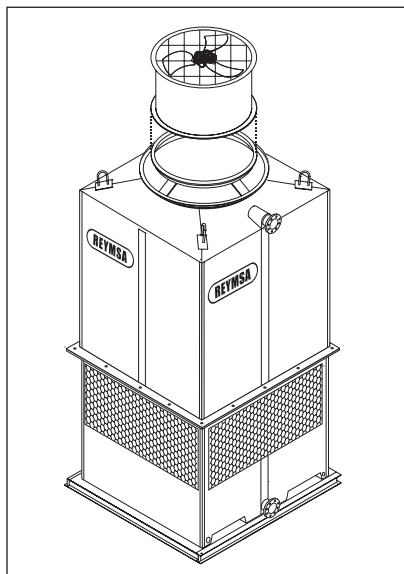

Figure A-96: Fan Duct installation on a fan adaptor
- C. Then place the fan duct on top of the fan adaptor; make sure the bolt holes and the marks inside the fan duct are aligned (see Figure A-96 and A-97). Then secure it using the stainless steel nut and bolt sets supplied by REYMSA.